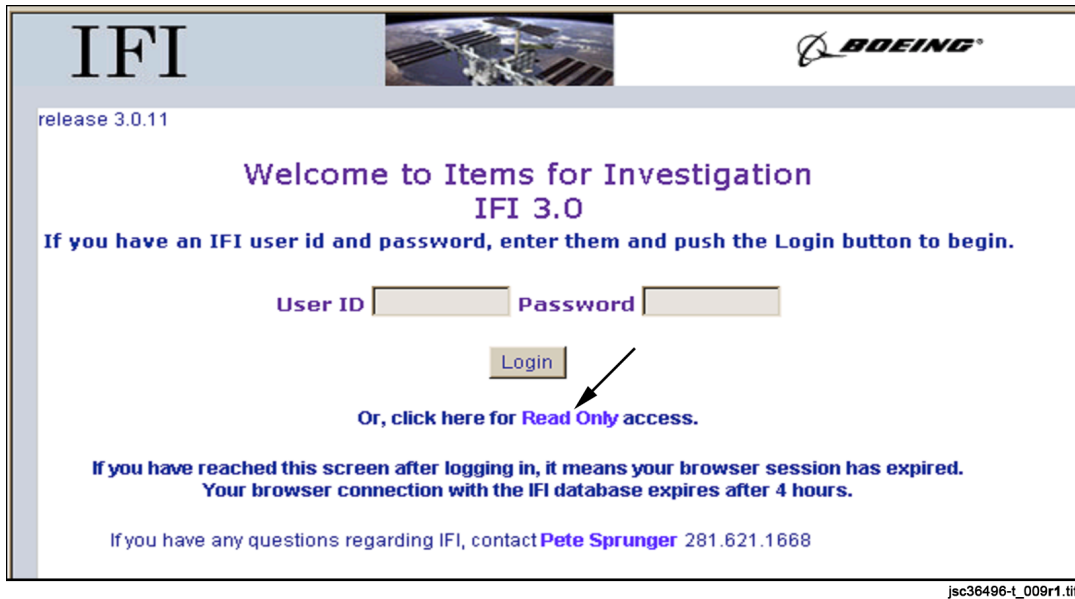

Figure 4-66. Read Only access
3. Click on **Read Only** link (see Figure 4-66).